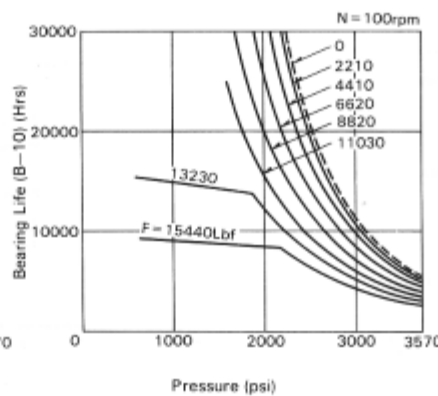

Fig. 8-2
- For a bi-directional application, involving a radial load for each rotation, then the motor should be installed so that side loads act as shown in figure 8.2.